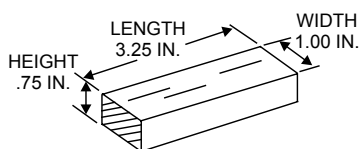
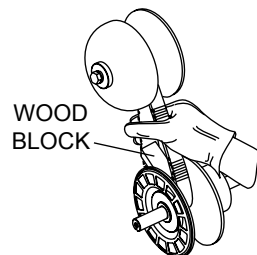

Figure 16. Wooden Block for Spacer
Figure 19. Wood Block
3. Insert the wooden block (Figure 16) between the moveable face and the fixed face of the lower drive pulley. See Figure 19. This block will help keep the lower drive pulley faces open while installing the new drive belt.